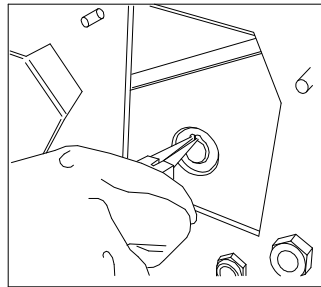

Fig. 16
- Insert the seeger pliers and remove the ring as shown in fig. 16 (chaff cutter side) .